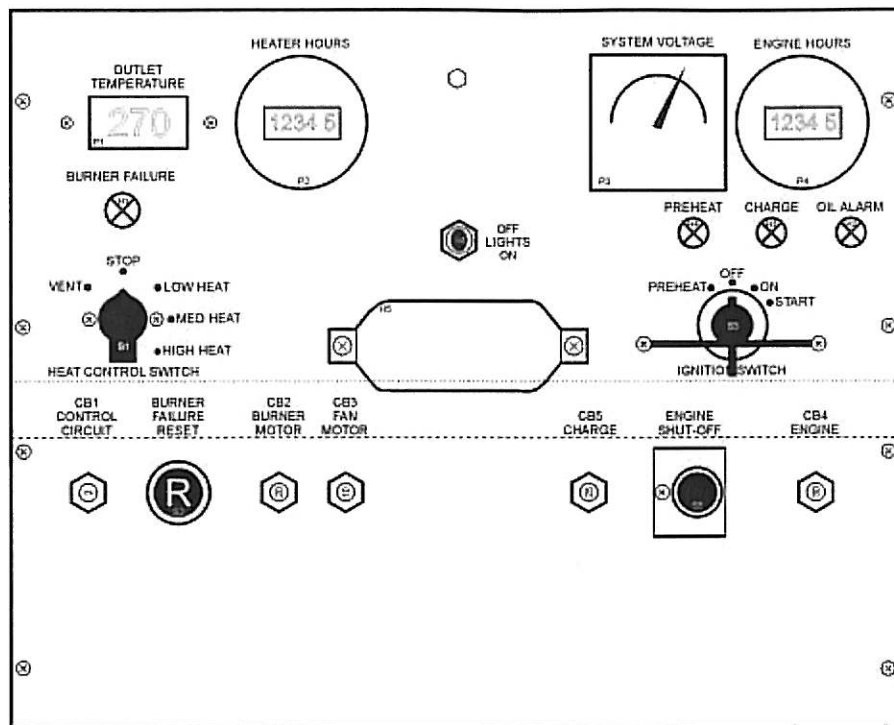

Figure 4-4. Control Panel (Front View)
4.4.1 OPERATING CONTROLS AND INDICATORS. Opening the access panel on the left rear side provides access to the panel controls and indicators illustrated in Figure 4-4.
1. Push engine reset bar (14, Figure 4-4) to engage engine start lever.
4.5.3 HEATER SHUT DOWN. Refer to Figure 4-4 and proceed as follows: